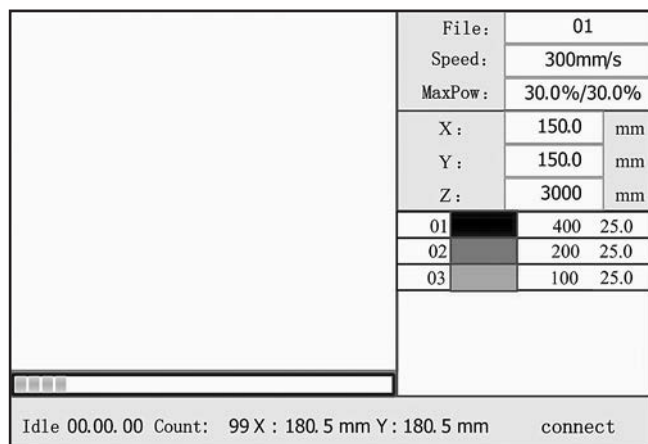

Figure 40. Example of status screen.
- When machine startup is completed, status screen will be displayed (see **Figure 40**).